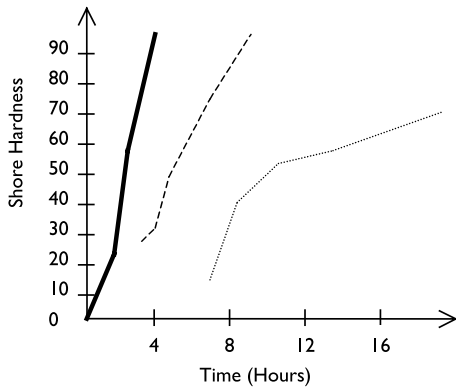

Fig. 7
Spread the cable cores out for the compound packing. Pack the compound between the cores as shown. See notes overleaf and Fig. 7 for compound preparation.
Allow the compound to cure. (See Fig. 7 for Curing Times). Untighten firstly the backnut (1) from (2) and secondly the middle nut (2) from the entry (5). The rubber pot (4) may be removed for inspection to ensure that the packing is satisfactory. Add further compound if necessary.